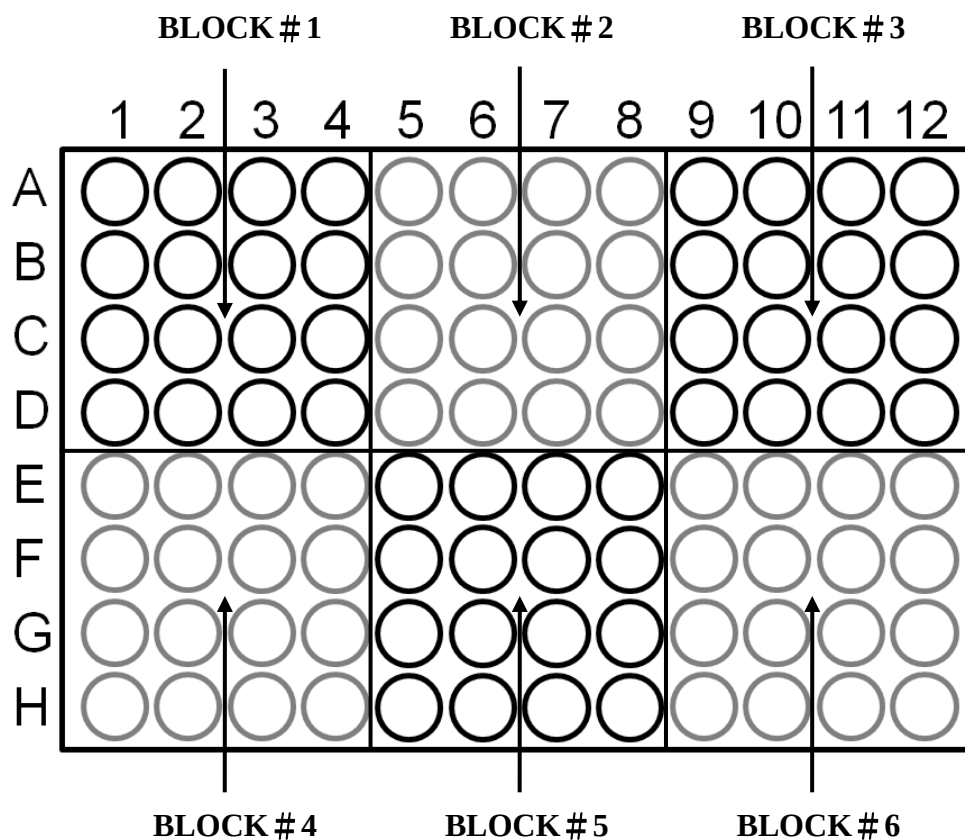

Figure 10. Block layout of 96-well model
2. The temperatures of all BLOCK offset are based on BLOCK # 1. If press **F2:AUTO** to set gradient temperature, each BLOCK will add 4°C automatically based on the preceding BLOCK. Prior to press **F3:AVG**, users need to enter BLOCK # 6 setting, and the screen will show the calculated temperature gradient from BLOCK # 1 to BLOCK # 6 as show in Figure 10. This reflects the variation of the temperature from the BLOCK # 1 (coolest) to the BLOCK # 6 (hottest).